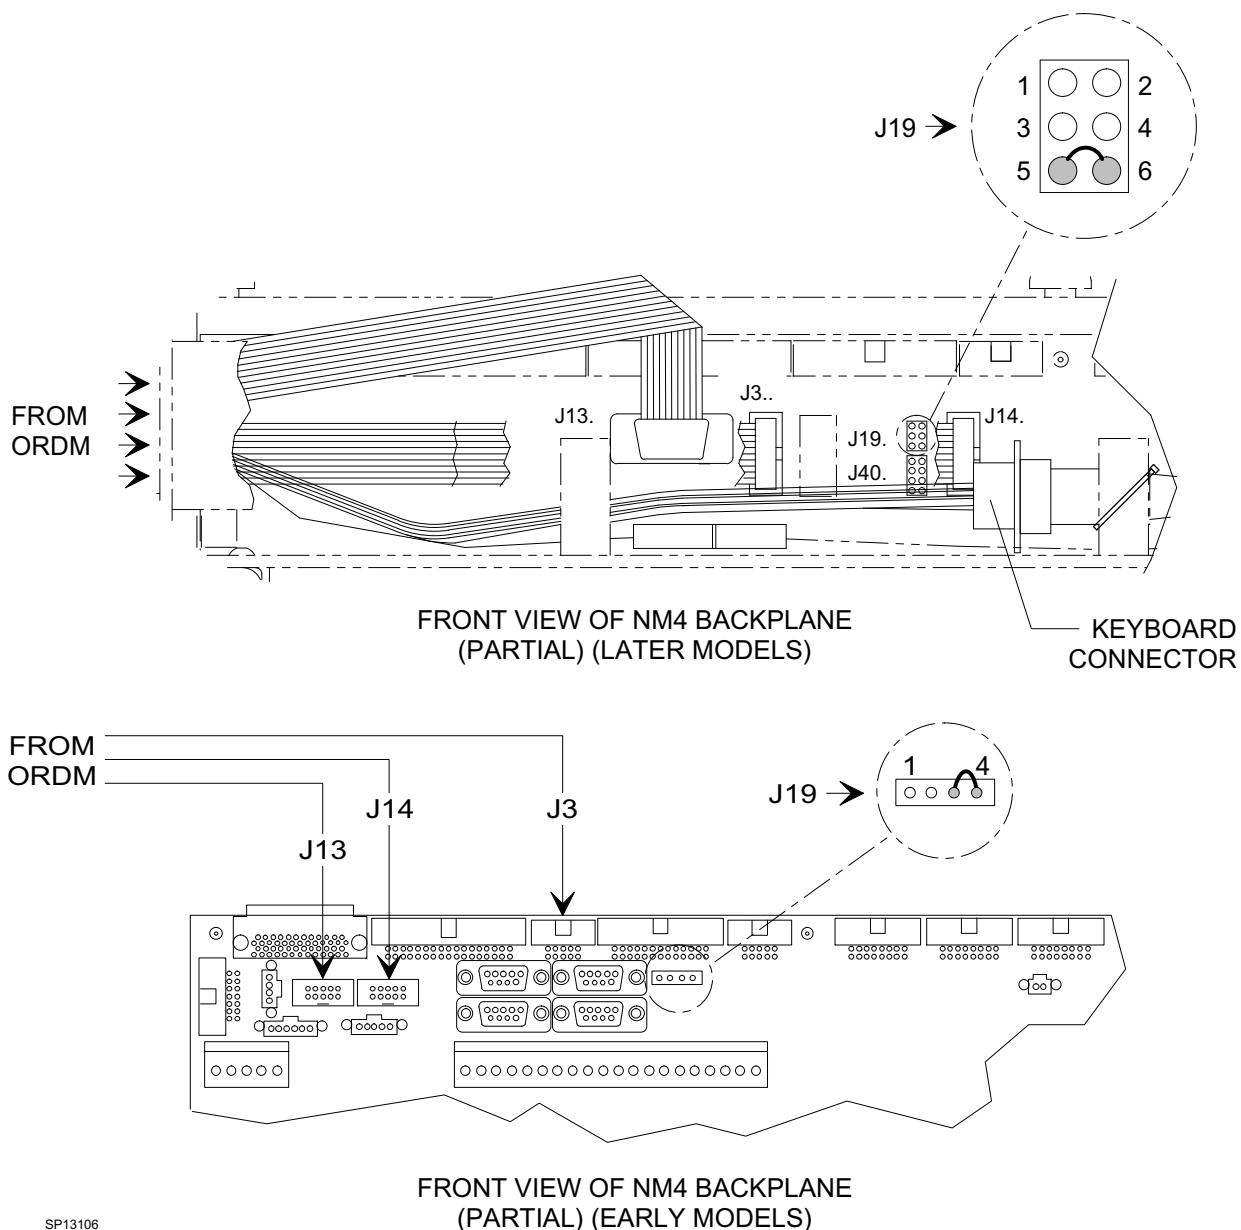

Figure 6: ORDM CABLE CONNECTIONS TO BACKPLANE
34. Connect the ORDM cables (labeled J3 and J14) to J3 and J14 on the backplane PCB. See Figure 6.
35. If the machine is a later model with a new style backplane (P/N 4111881) as shown in the upper section of Figure 6, connect the ORDM cable (DB9) directly to J13 on the backplane.
- 35 (cont'd) If the machine is an earlier model with the older style backplane assembly (P/N 4110699) as shown in the lower section of Figure 6, connect the ORDM cable (DB9) to J13 reusing the original printer adapter cable. Secure this connection with two tie straps (P/N 4106068) as shown in the illustration.
36. Verify that the jumper arrangement on J19 is correct as shown in Figure 6: JP19-5 to JP19-6 on the new style backplane (P/N 4111881), or JP19-3 to JP19-4 on the older style backplane (P/N 4110699).